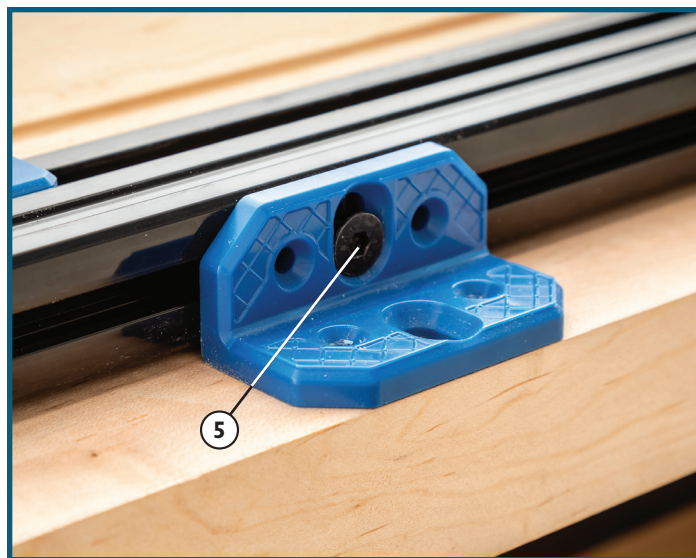

Fig. 3 - Orientation for 3/4" to 1" thick workpieces
1. Determine on which Rails (1) it will be best to mount the Clamping Brackets (4). This will depend, in part, on how you plan to secure them to the work surface. If you plan to use clamps to secure the jig in a corner of your work surface, you will need to position two Clamping Brackets along each of the two Rails that will be accessible. If you plan to use screws to attach the Clamping Bracket, which have holes for #8 flathead screws (not included), we recommend positioning the brackets on opposing Rails, two on each.
2. Orient the Clamping Brackets (4) correctly for the thickness of your workpiece. Orient the bracket with the shorter leg against the Rail (1) for workpieces between 3/4" and 1" thick. Orient the bracket with the shorter leg against the Rail (1) for workpieces between 1" and 1 1/4" thick. **Figs. 3 and 4.**
3. To install the Clamping Brackets (4), slide two Washer Nuts (6) into the outside T-slot of each of the two Rails (1), spacing them along the Rail. Position each Clamping Bracket so that its mounting hole is aligned with the Washer Nut and then attach with a Flathead Screw (5). Fully tighten the screw with the included Hex Key (12). **Fig. 3 and 4.**